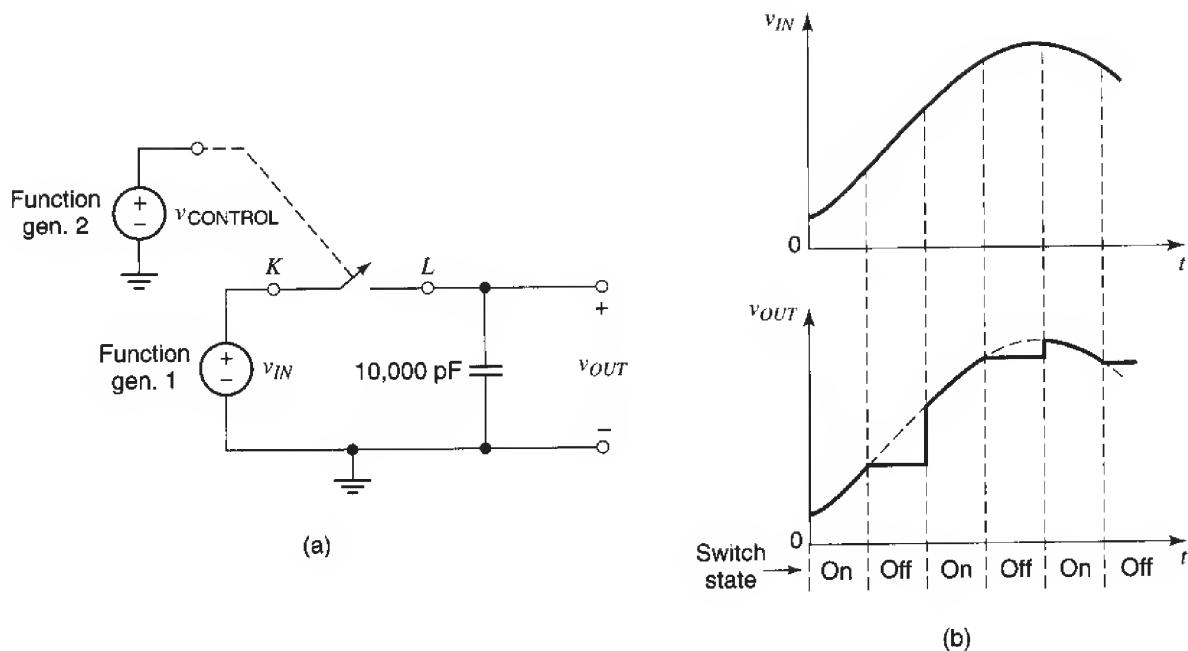

Fig. 9
17. Consider the circuit of Fig. 9(a). It operates as follows:
This operation is illustrated in Fig. 9(b). As seen, when the switch is opened the capacitor holds the above value until the switch closes again, at which point the output again becomes equal to the input and tracks it. This is a *track-and-hold* circuit. It has many uses; for example, it is found at the input of analog-to-digital converters; during the intervals that the track-and-hold's output is held constant, the converter processes it to convert it to a digital code. This code can then be fed to a computer, to a digital communications link for transmission, or to a digital signal processor for further processing. Analog-to-digital converters are used, for example, in recording studios to convert music signals to digital words, which can then be stored on compact discs.
20. If you still have time, you can ponder this question: Can you think of a way to further process the output signal of the circuit in Fig. 9(a), so that the varying part in each control voltage period is eliminated? You would need an additional track-and-hold circuit to do this. Do not build such a circuit; just explain how you would build it if you had to. Circuits that produce such waveforms at their output from a continuously varying input signal are called *sample-and-hold* circuits (or, more accurately, *sample-delay-hold* circuits). Sometimes, even the track-and-hold circuit is called a sample-and-hold circuit.